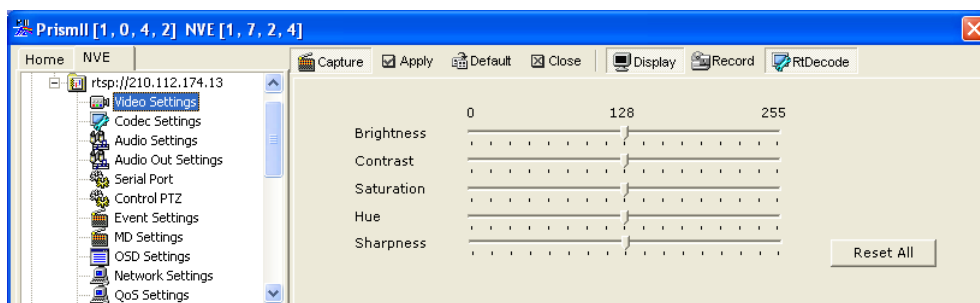

Figure 6. Video Settings
STEP 1 Change settings as needed from the screen shown in Figure 6 and then click *Apply*.